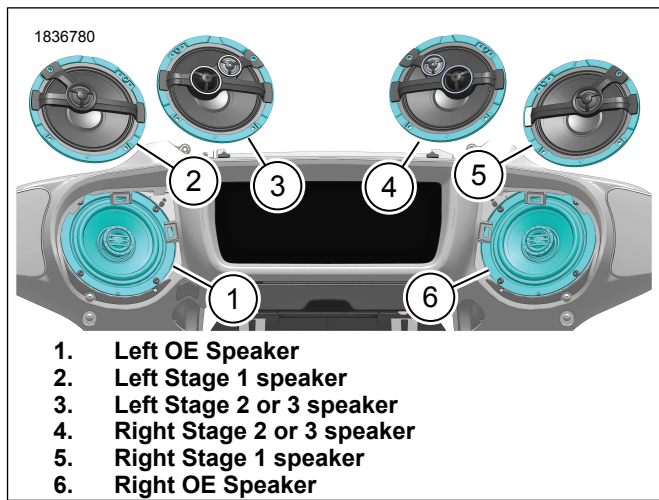

Figure 5. Speaker Orientation (Typical)
1. Figure 5 Orient Stage I (2, 5) or II (3, 4) speaker as shown.